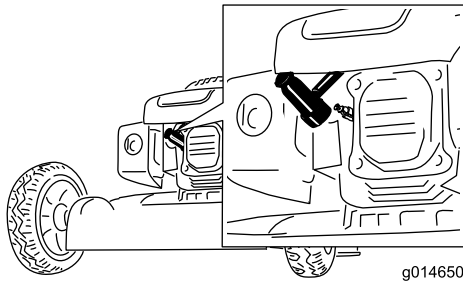

Figure 35
2. Disconnect the spark-plug wire from the spark plug (Figure 35) before performing any maintenance procedure.